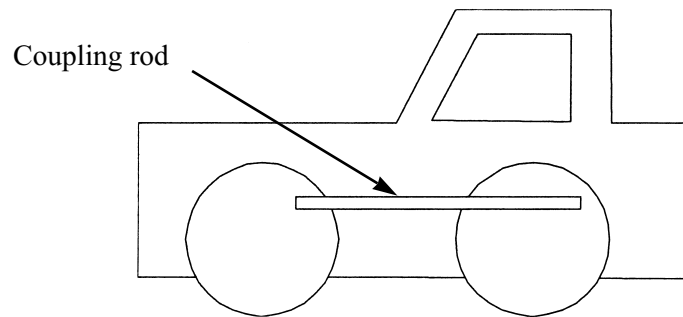

Figure 6
- B3** The drawing **Figure 6** shows a toy train that has been manufactured using a variety of different plastic materials.